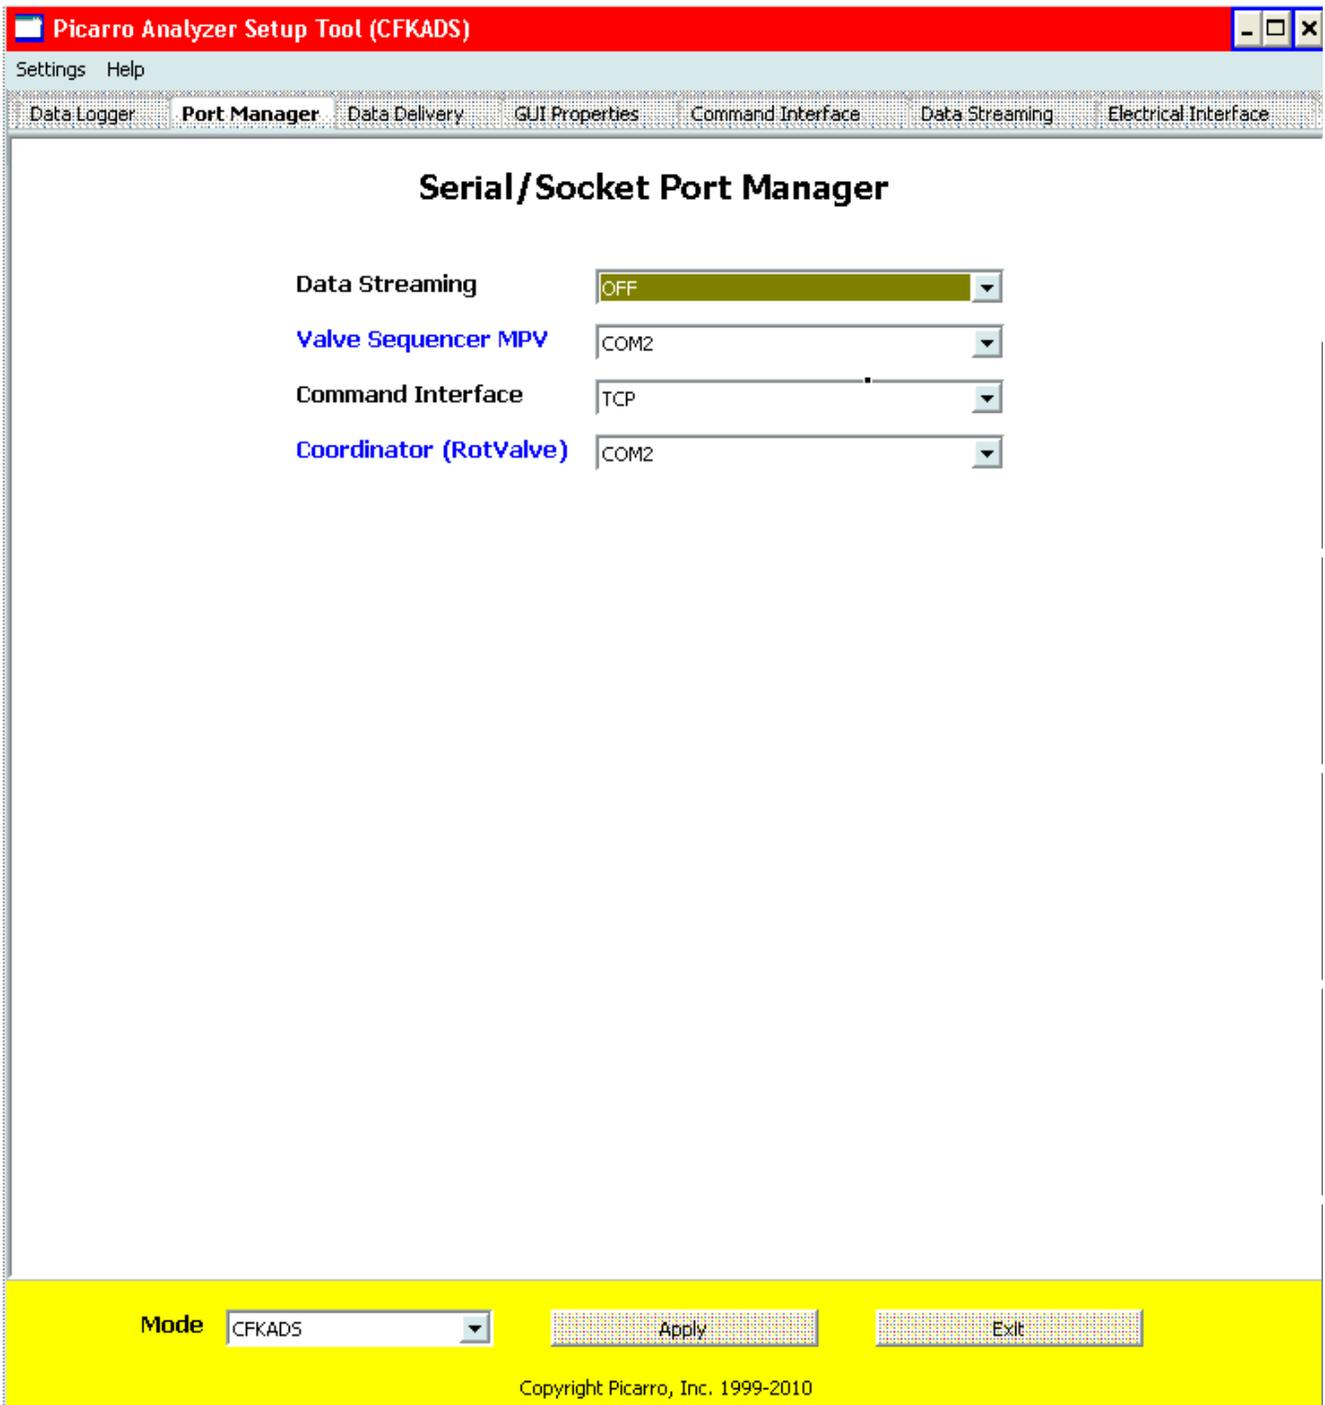

Figure 21: Select TCP for "Command Interface" under the "Port Manager" tab and press Apply.
- 2) Under the Picarro Setup Tool "Port Manager" tab, set "TCP" for the "Command Interface" as shown in Figure 21, then press "Apply".